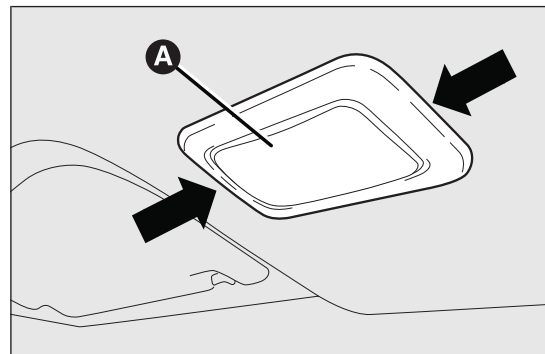

fig. 159
- ☐ extract the ceiling light A fig. 159 by operating in the points shown by the arrows;